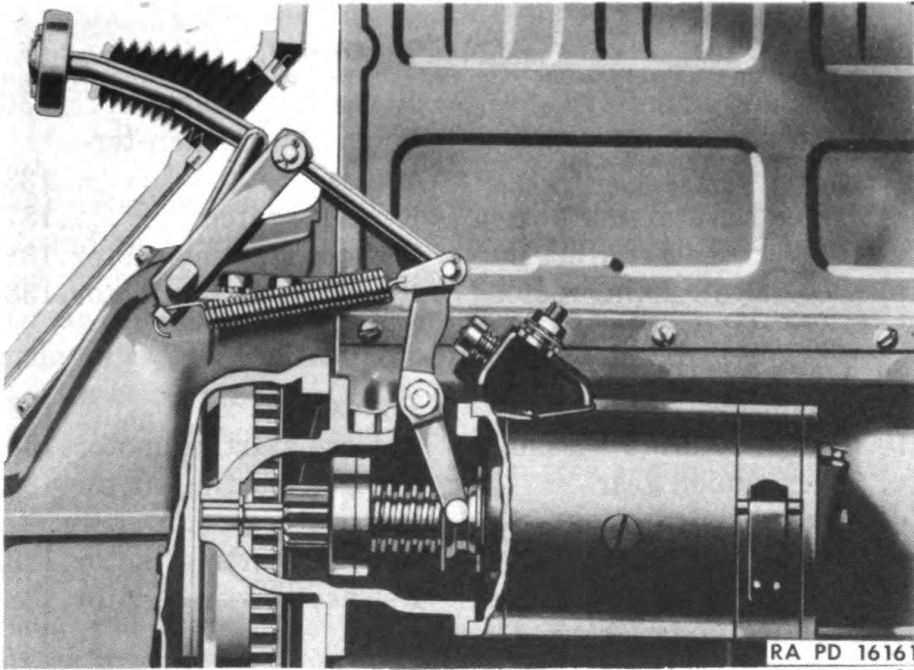

Figure 107—Starting Motor Installation
b. **Starting Motor (Fig. 107).** When starter pedal button is depressed, initial movement of shift lever pushes drive unit rearward to engage pinion teeth with flywheel ring gear teeth. Upper end of shift lever engages starting switch button after pinion has fully engaged flywheel gear, or when spring is sufficiently compressed to force pinion into mesh as soon as armature rotates. When engine has started, action of over-running clutch on starting motor shaft releases starter pinion from flywheel teeth.